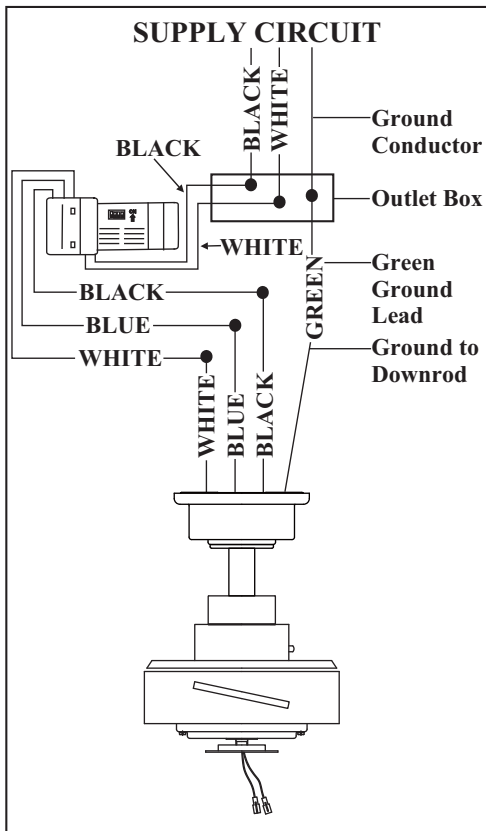

Figure 15
2. (Figure 15) Motor to receiver electrical connections: Connect the black wire from the fan to black wire marked "TO MOTOR L". Connect the white wire from the fan to the white wire marked "TO MOTOR N" from the receiver. Connect the blue wire from the fan to the blue wire marked "For Light" from the receiver. Secure the wire connections with the plastic wire connecting nuts provided.
3. (Figure 15) Receiver to house supply wires electrical connections: Connect the black (hot) wire from the ceiling to the black wire marked "AC in L" from the receiver. Connect the white (neutral) wire from the ceiling to the white wire marked "AC in N" from the receiver. Secure the wire connections with the plastic wire connecting nuts provided.
4. (Figure 15) If your outlet box has a ground wire (green or bare copper) connect it to the fan ground wires; otherwise connect the hanging bracket ground wire to the mounting bracket. Secure the wire connection with a plastic nut provided. After connecting the wires spread them apart so that the green and white wires are on one side of the outlet box and black and blue wires are on the other side. Carefully tuck the wire connections up into the outlet box.